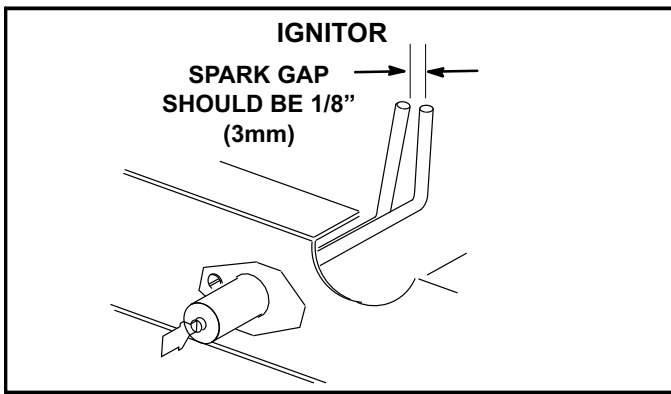

FIGURE 26
- 4- Locate the ignitor under the left burners. Check ignitor spark gap with appropriately sized twist drills or feeler gauges. See figure 26.